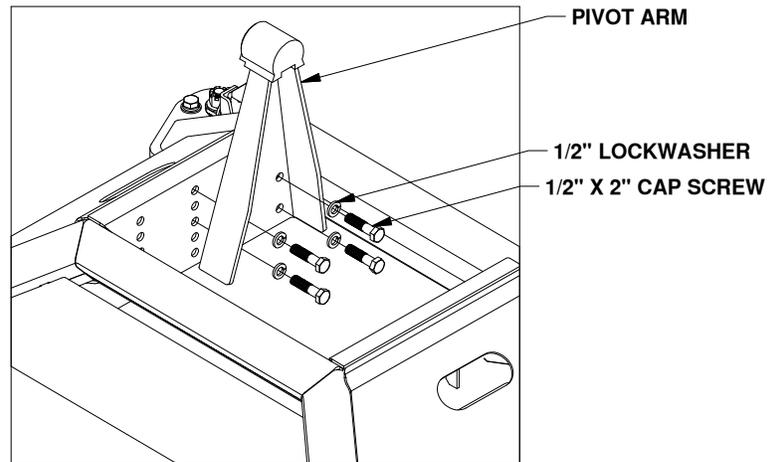
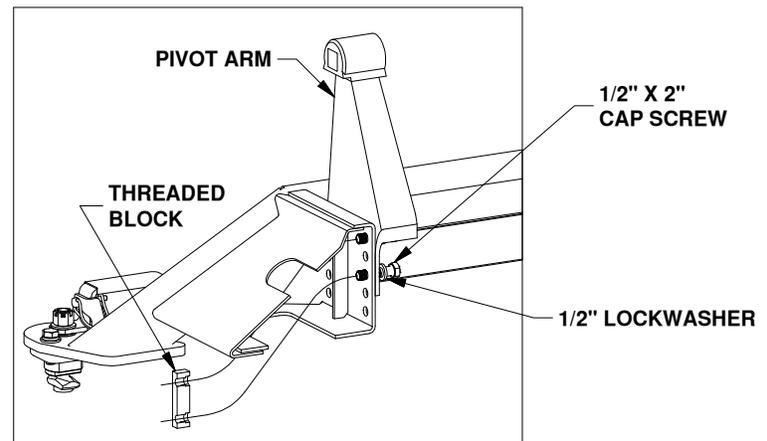

FIGURE A2: Passenger pivot arm mounting location.
FIGURE A3: Cutaway view of passenger side bolt plate.
- Locate both pivot arms, the four 3/4" threaded blocks, eight 1/2" cap screws, and eight 1/2" split lock washers. Place the lock washers over the cap screws. Align the flat side of the pivot arm flat against the bolt plate and install four 1/2" cap screws through the holes on the arm, holding the arm in place, as shown in Figure A2. Locate the threaded blocks. Note that the sides of the block have threaded holes on one side and smooth bored holes on the other side. When installing the threaded blocks it is critical that the side with the smooth holes is flat against the bolt plate when installed. Pass the threaded block under the bases side and align the block with each set of screws and start each screw, as shown in Figure A3. After all the screws are started through the arms, torque each bolt to 80 ft-lbs.